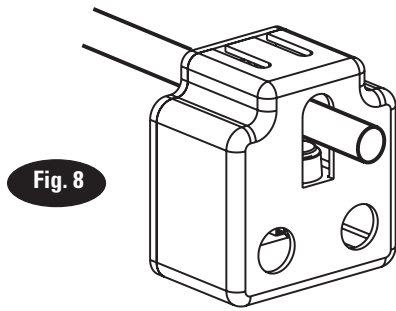

Fig. 8
10a. Overhead Assembly: Fig. 9: Adjust overhead to appropriate dimension. Install (4) 3/8"-16NC x 3/4" HHCS & 3/8"-16NC Flanged Locknuts, do not tighten. Slide Switch Box over switch bar ensuring knock out holes face the power unit column. Use (2) 1/4"-20NC x 3/4" lg. HHCS, 1/4" Flat Washer, and 1/4"-20NC Nuts to mount switch box to overhead, see Fig. 8.